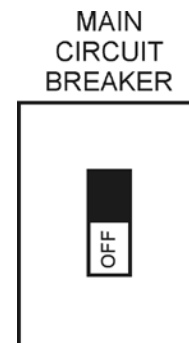

Figure 19. Main Circuit Breaker (OFF)
1. Place the main circuit breaker (Figure 19) in the **OFF** position.